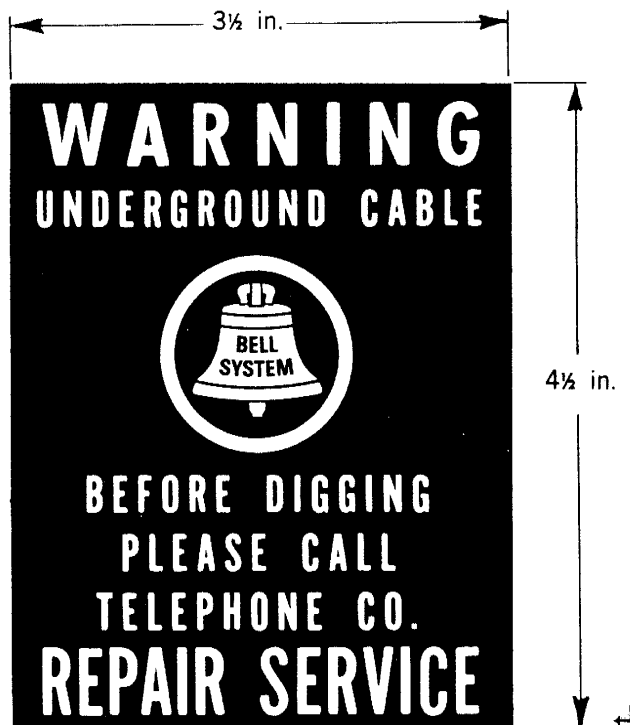

Fig. 3 — Warning Decal
- 2.03 *D or E Warning Decals* are to be placed on the cover of the terminal as a protective warning device. The decal should be positioned to provide maximum warning as to the location of the buried plant. *The D Decal has white letters on a green background* and is for use in areas or locations where a decal that blends into the landscape is desirable. *The E Decal has black letters and yellow background* and is intended primarily for use in areas where higher visibility is required. Fig. 3 illustrates the decal design.